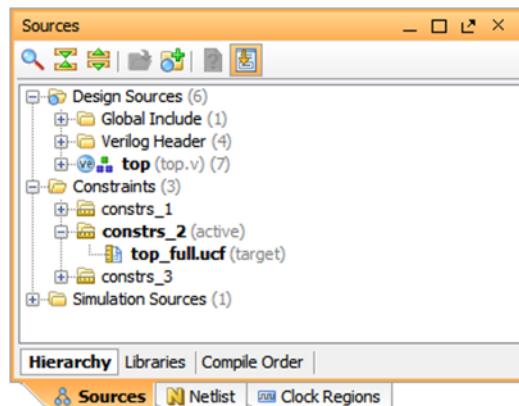

Figure 20: Active Constraint Set
2. In the Sources view, click the **Collapse All** button,  and then expand `constrs_2`, as shown in FIGURE 20.